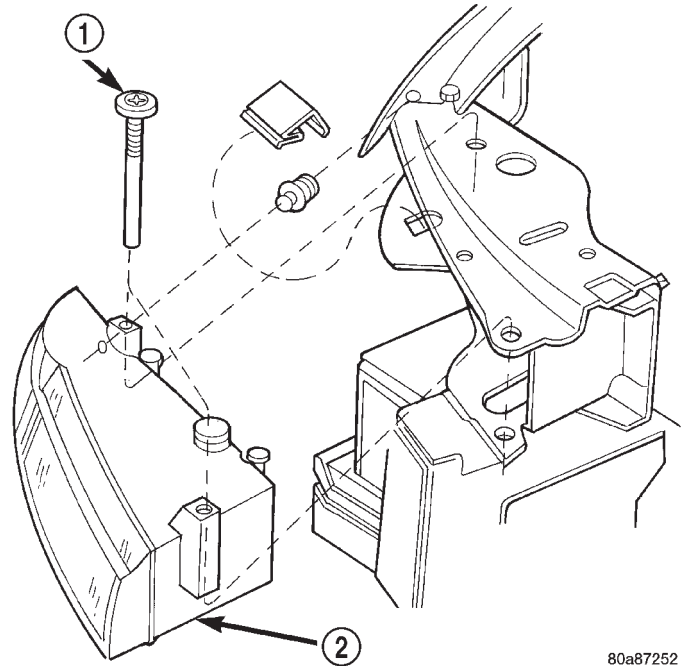

Fig. 5 Headlamp Module Retaining Screws
(1) Release hood latch and open hood.
(2) Remove the headlamp module retaining screws (Fig. 5).